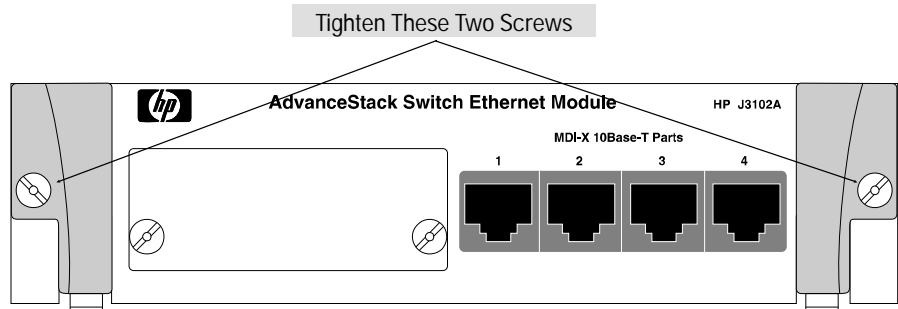

Figure 5. Securing the Module in the Slot
2. Loosen the screws in the extractor handles of the module you want to remove from the switch. (Refer to figure 5 on page 6.)